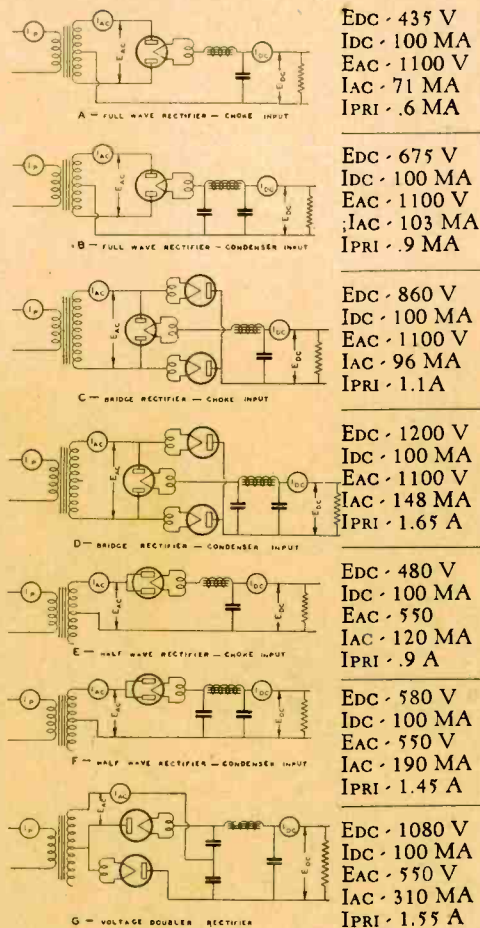

FIG. 1
Fig. 1 illustrates the result of his work. He discovered that when he changed from choke input full wave rectification (A) to condenser input (B), the AC current in his transformer secondary had changed from 71 mills to 103 mills. Also, simultaneously, the primary current of the transformer had gone up from .6 amp. to .9 amp. When he went to the bridge rectifier, (C), he found the secondary current again about 100 mills, but the primary current had risen still higher, to 1.1 amps. Finally, in the last method he had originally used for his transmitter, that is, condenser input (D), the AC current in the transformer secondary was 148 mills and the primary current 1.65 amps. Naturally, it was apparent to Joe that the transformer had burned out due to abuse rather than poor workmanship.
It is interesting to analyze the results shown in Fig. 1. These results can be applied to any standard rectifier. The ratio of AC to DC current, etc., can be definitely taken from this data. Where condenser input is used, the AC current will depend considerably on the value of the condenser and the value of DC load. The critical factor in the output available from a power transformer is the transformer's temperature rise. Insulation as normally used in the winding of power transformers will not stand up above certain limiting temperatures. The temperature rise in a transformer is almost directly proportionate to the ratio of the total wattage loss in the transformer as compared to the heat dissipating surface of the transformer. In the normal design of a transformer, this wattage is approximately equally divided between iron losses and copper losses. The iron losses are not affected very greatly by load but the copper loss is. Following the law of our old friend Ohm, we find that wattage losses in the windings of a transformer are equal to $I_{ac}^2 \times R$, where I_{ac} is the effective AC current in the winding and the R the resistance of the winding. The value of I_{ac} in the secondary, while directly proportionate to the DC current, is not equal to the DC current. This is apparent from Fig. 1.
Again referring to Fig. 1 and using the I^2R principle, we find that if we take the wattage loss in (A) as normal for the transformer windings, the wattage loss in (B) is approximately double in both primary and secondary; that is, the AC current has increased to 1.4 times its original value and squaring this, we get 2.
• Fig. 1—Circuit diagram of the Browning 35 with Tobe Tuner.
Fig. 1 shows the TUNER used as the heart of a superheterodyne receiver which in itself has several features. The most outstanding feature is the intermediate frequency amplifier, which is in reality a band pass filter made up of three tuned circuits so coupled together that a flat "nosed" response curve results. The band passed by the intermediate is about 5 KC wide and consequently there is little attenuation of the higher modulating audio frequencies, which results in improving the quality of the receiver to a noticeable degree.
Two 46s connected in parallel as a Class C final amplifier were found to afford a very conservative output of about 30 watts, 600 volts being applied to the plates. The final circuit that was selected for a complete, self-contained transmitter now being marketed under the Lafayette name is shown in Fig. 1. Tube V1 is the 2B6, which consists of one very small triode and one large triode in one envelope, with the cathode of the former connected inside the tube to the control grid of the latter. The crystal is connected across the grid-cathode section of the small triode, with the cathode-plate tank, consisting of L1 and C1, between the cathode and ground. The large triode acts as a direct coupled amplifier, its plate circuit containing the tank L2-C2. Neutralizing voltage to overcome feedback effects through the grid-plate capacity of the amplifier triode is supplied by the bottom section of L1, through the small neutralizing condenser C4.